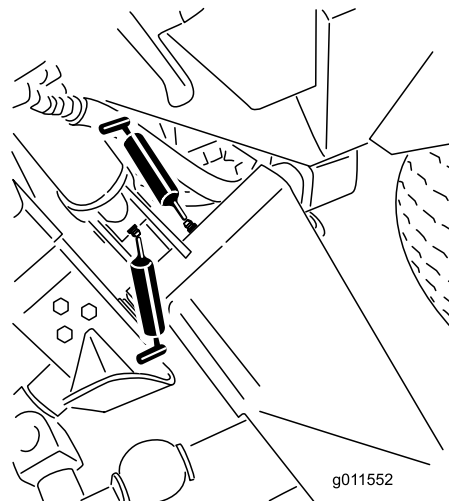
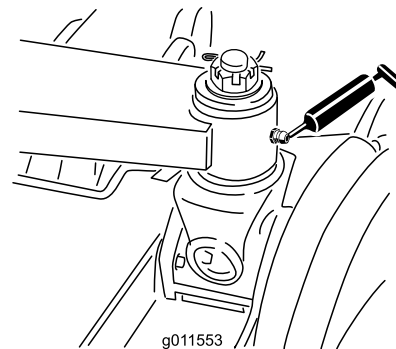

Figure 70
Figure 71
- 6 main lift-arm bushings (Figure 70 and Figure 71)